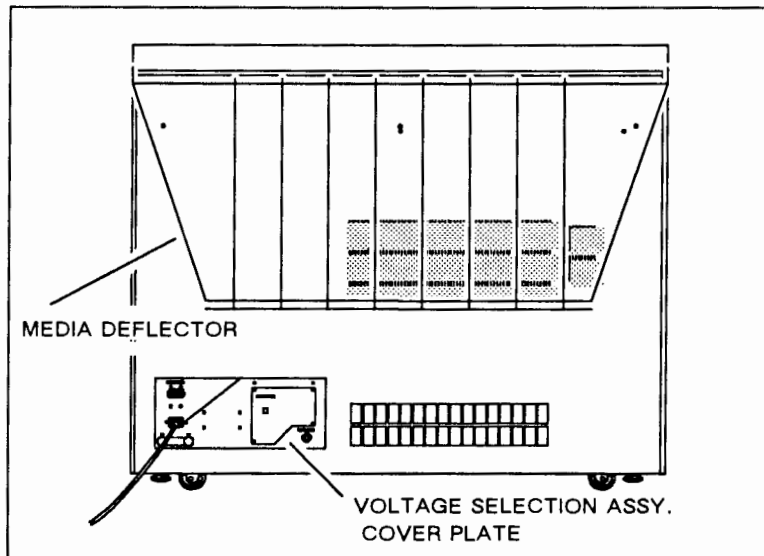

Figure 2-14. Removing the Cover Plate
- d. Remove the cover from the voltage selection assembly. See Figure 2-14.